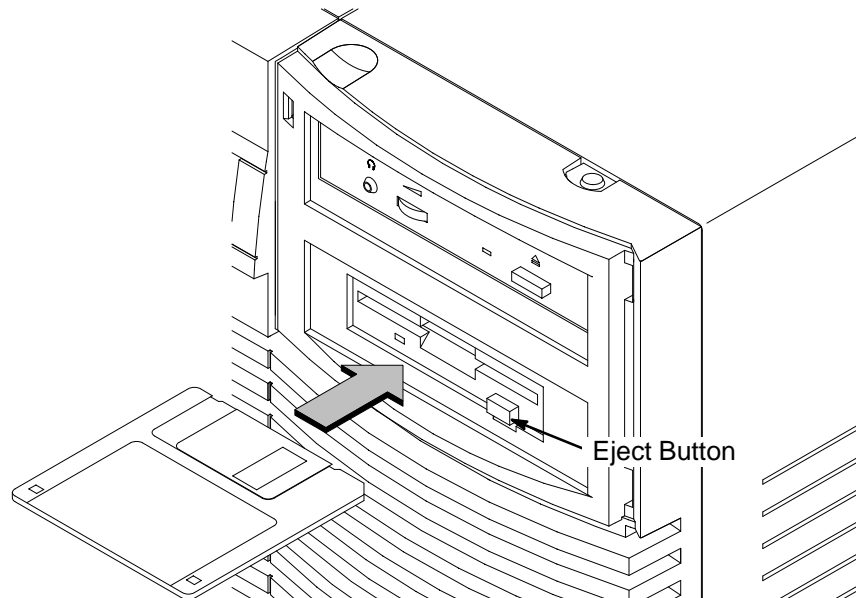

Figure 5–2. Inserting and Removing a Floppy Diskette
1. Insert the diskette into the drive, as shown in Figure 5–2.
3. To remove the diskette, push the eject button (see Figure 5–2), then take out the diskette.
2. Make sure that the write-protect tab on the floppy diskette is in the *write* position, as shown in Figure 5–1.